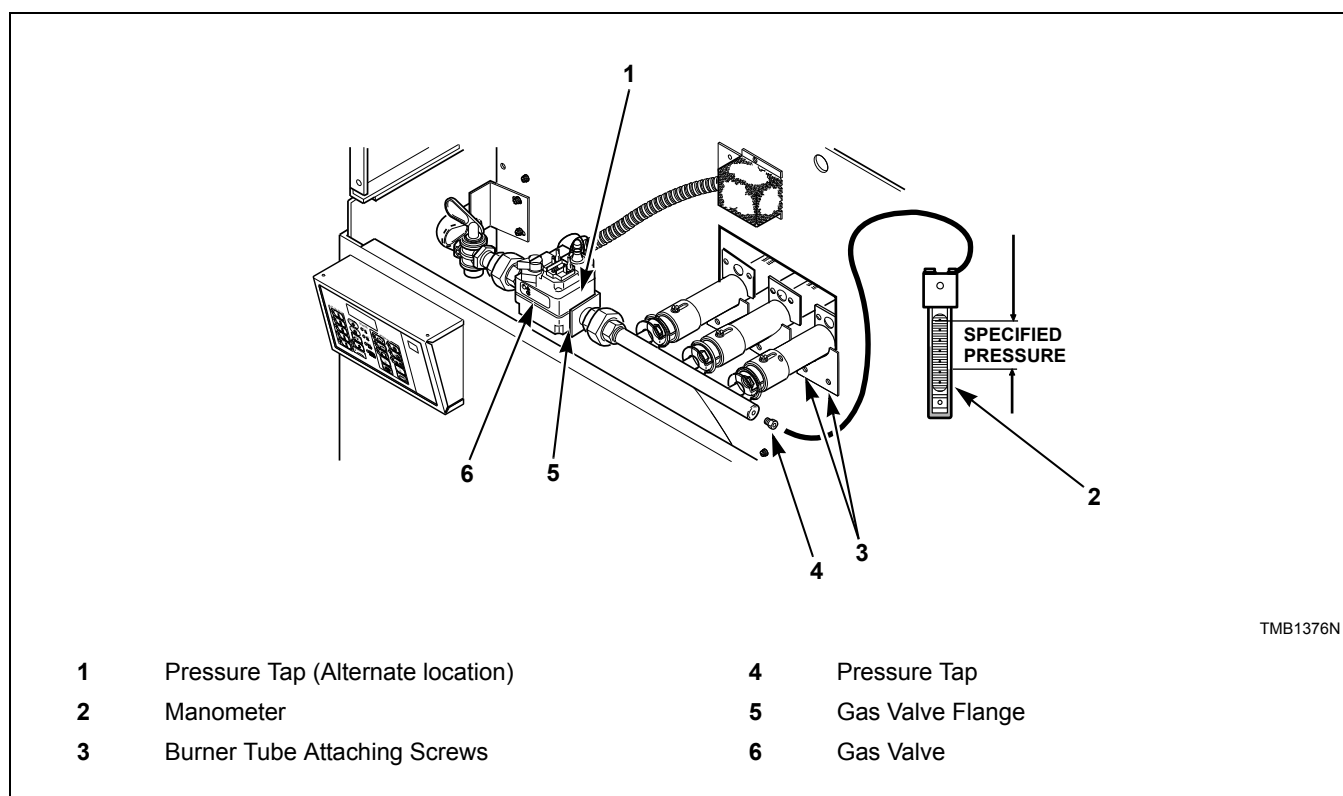

Figure 8
1. Check gas burner orifice (manifold) pressure as follows. Refer to *Figure 8*.
4. Start tumble dryer and note pressure once flame is burning. Remove regulator cap and adjust regulator screw until the burner orifice pressure per applicable table is achieved. Replace regulator cap. Refer to *Figure 8*.